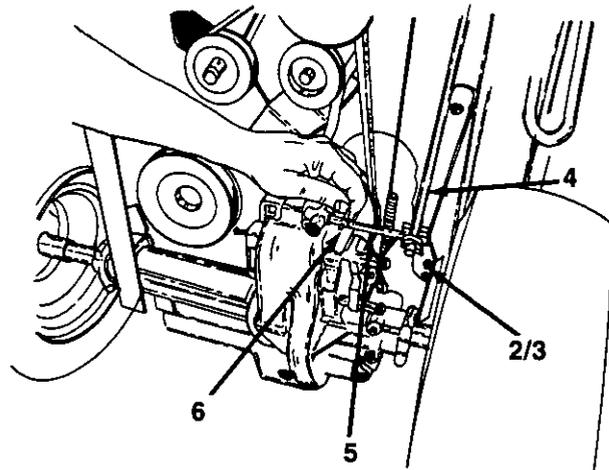

FIGURE 2.
3. Remove the cotter pin and flat washer on bottom end of shift lever assembly, at the shift lever support bracket. See figure 2.
4. Remove cotter pin shift rod at the shift fork assembly located on the left hand side of transaxle. See figure 2.